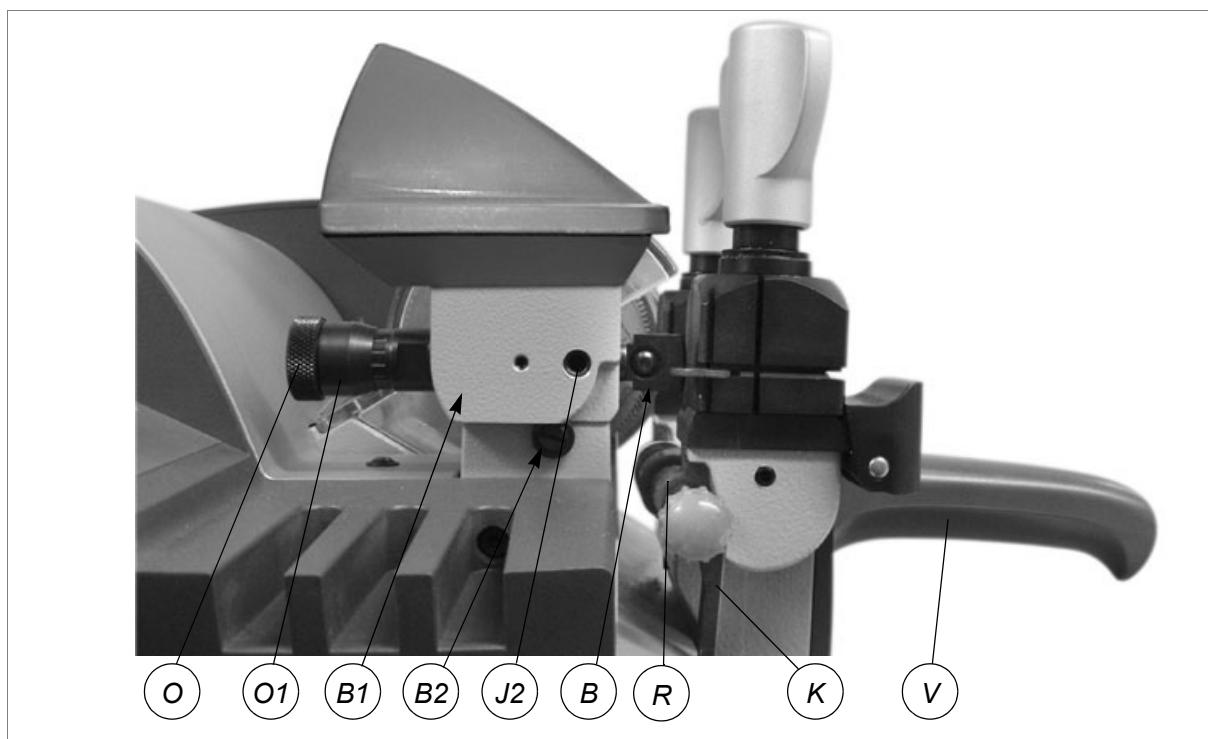

Fig. 18
- a) loosen the screw (J2) locking the tracer point (fig.18, pag.17).
- b) turn the knob (O) clockwise to move the tracer point forwards.
- c) turn the knob (O) anticlockwise to move the tracer point backwards.
- a) with one hand hold still the knurled part of the knob (O).
- b) move the tracer point support (B1) sideways by loosening or tightening the screw (B2) (fig.18, pag.17) until ON appears.
- 6) Lower the carriage by means of the handle (V) (it will engage automatically).
- a) loosen the screw locking the tracer point (J2) (fig. 18, page 17).
- c) turn the knob (O) anticlockwise to move the tracer point backwards (each mark on the graduated drum equals a variation of 0.05 mm).
- 1) Turn off the master switch (C) to operate safely and prevent activation of the cutting tool.
- 2) Place the adjusting key in the clamps (fig.18) with the notch facing the cutting tool and tracer point and proceed as follows:
- a) ensure that the keys adhere to the clamp and that the callipers (K) are in full contact with the stops.
- b) to take the callipers into contact with the keys, rotate the drum (R) towards you (away from you to return to the idle position).